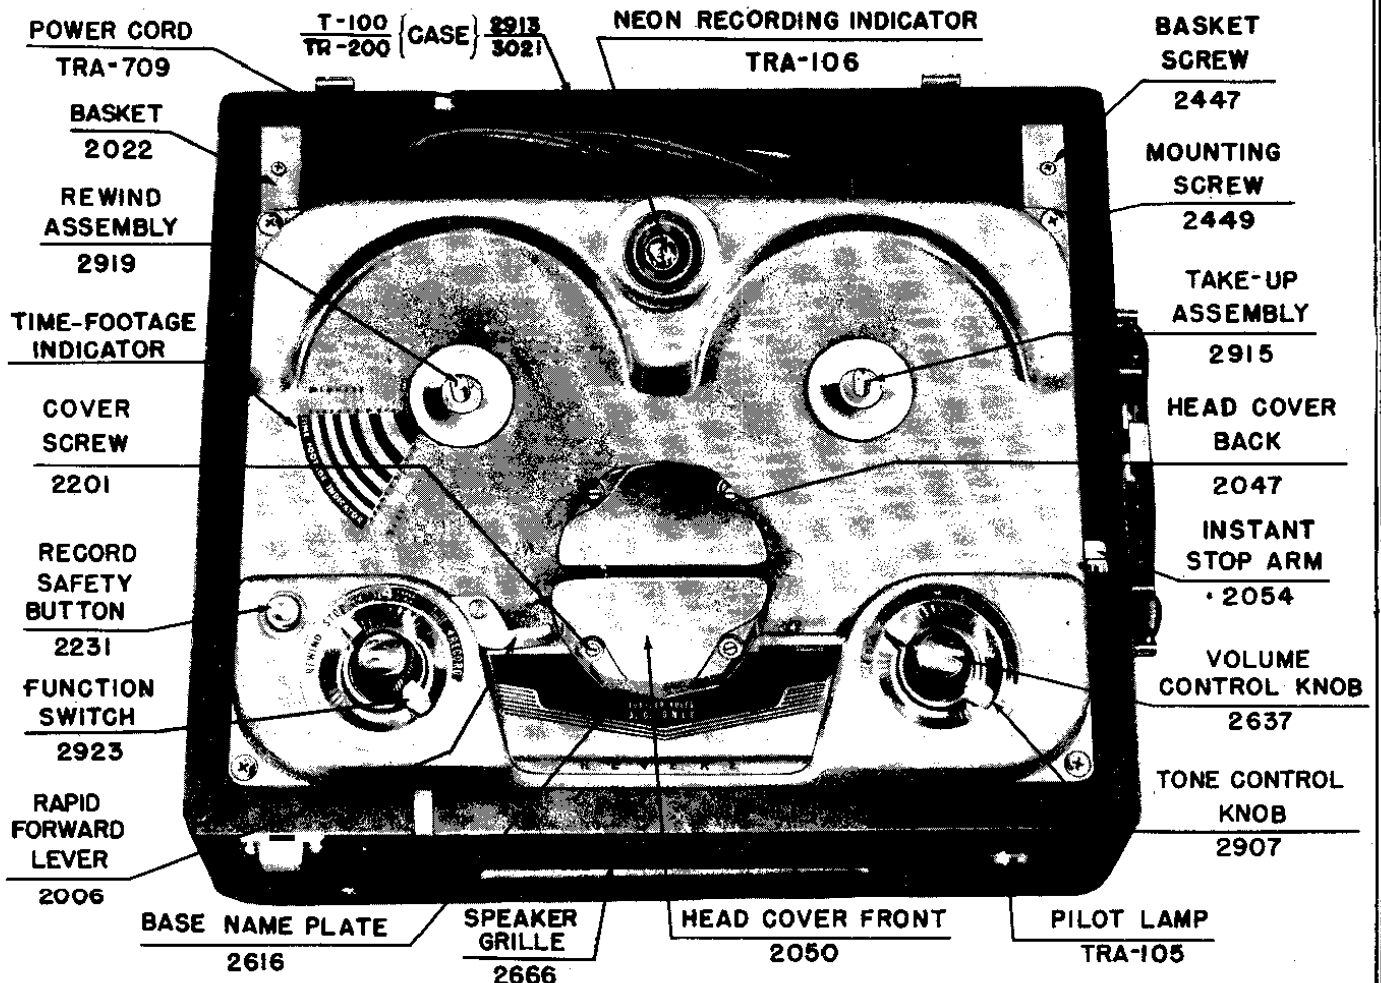

FIG. 1 - Revere Tape Recorder Controls and Indicators.
(Controls and indicators are illustrated in Figure 1.)
- (1) Place tape recorder on table or bench. Remove all literature and spare parts from basket. Remove basket screws (#2447) and mounting screws (#2449, see Fig. 1).
- (2) Lift basket from case.
- (3) Slide mechanism to rear of case (about 1/4 inch) and lift out.